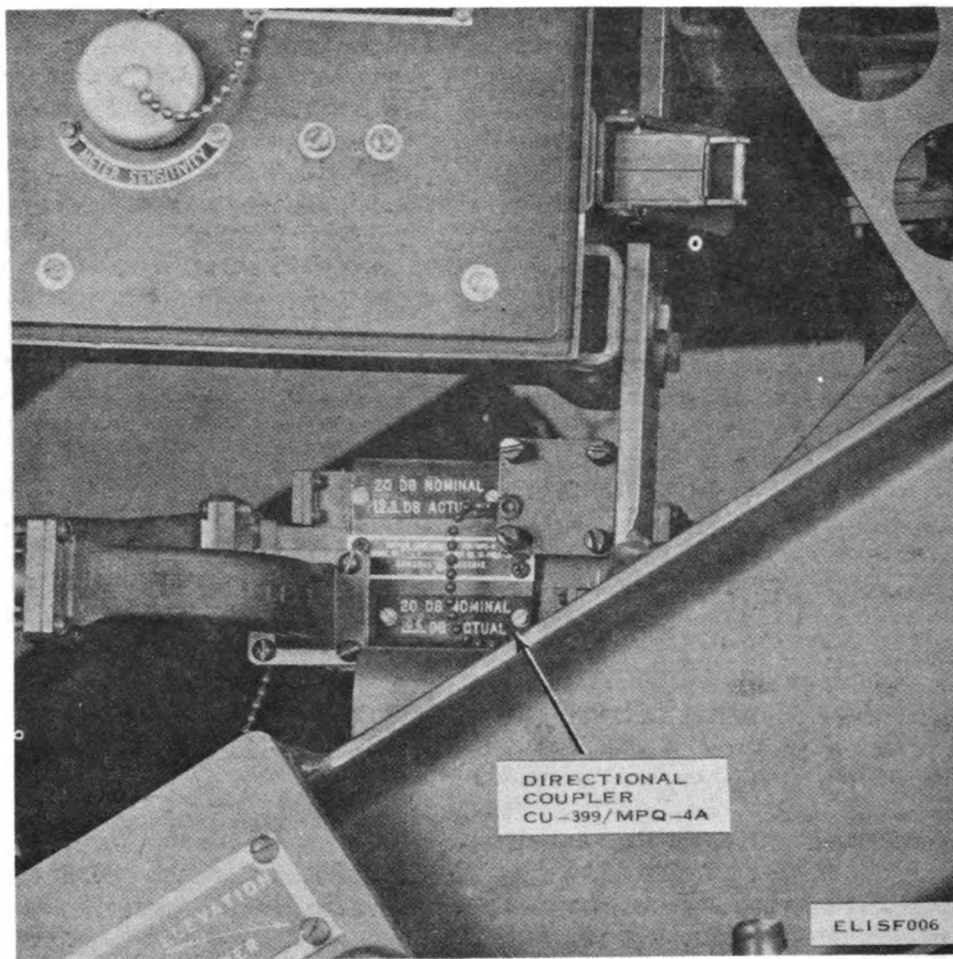

Figure 1-6. Directional Coupler CU-399/MPQ-4A.
b. *Coupler, Directional CU-399/MPQ-4* (fig. 1-6). The directional coupler is a special section of waveguide with a frequency range of 15,700 to 16,300 megaHertz. It is bidirectional with a nominal attenuation of 20 decibels (db), and is used to sample the rf energy in the main waveguide. This rf energy is fed into the echo box through a connecting section of waveguide.